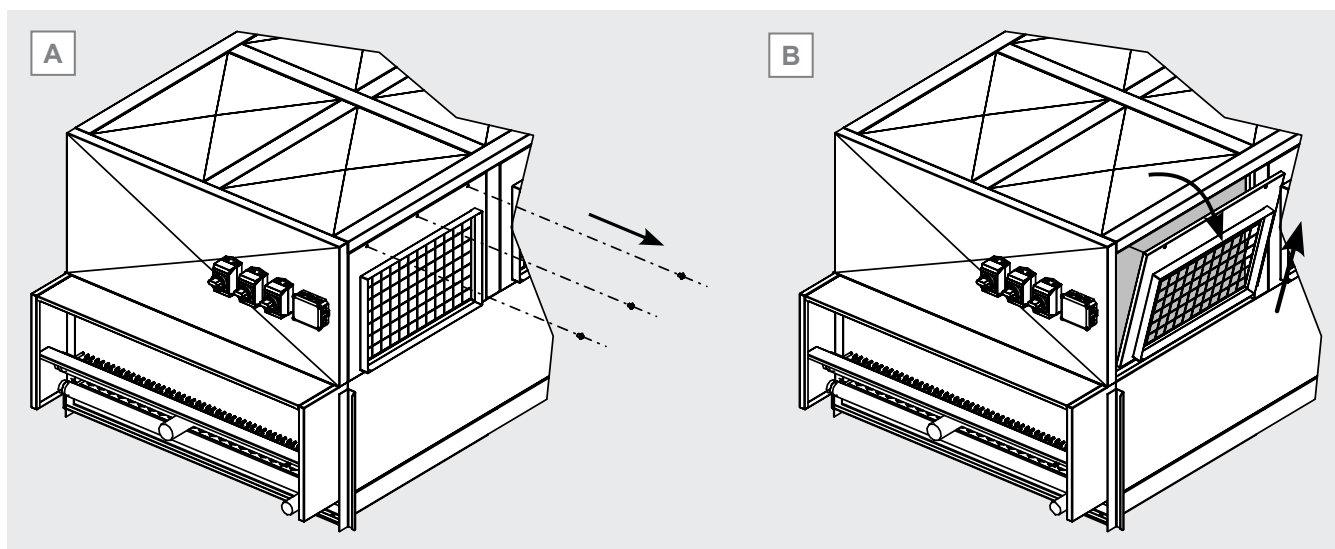

Figure 9
- 8.2.7 Keep the panel in a safe place where it is protected against damage and does not pose a hazard to people or property. See Figure 9 A and B as examples.